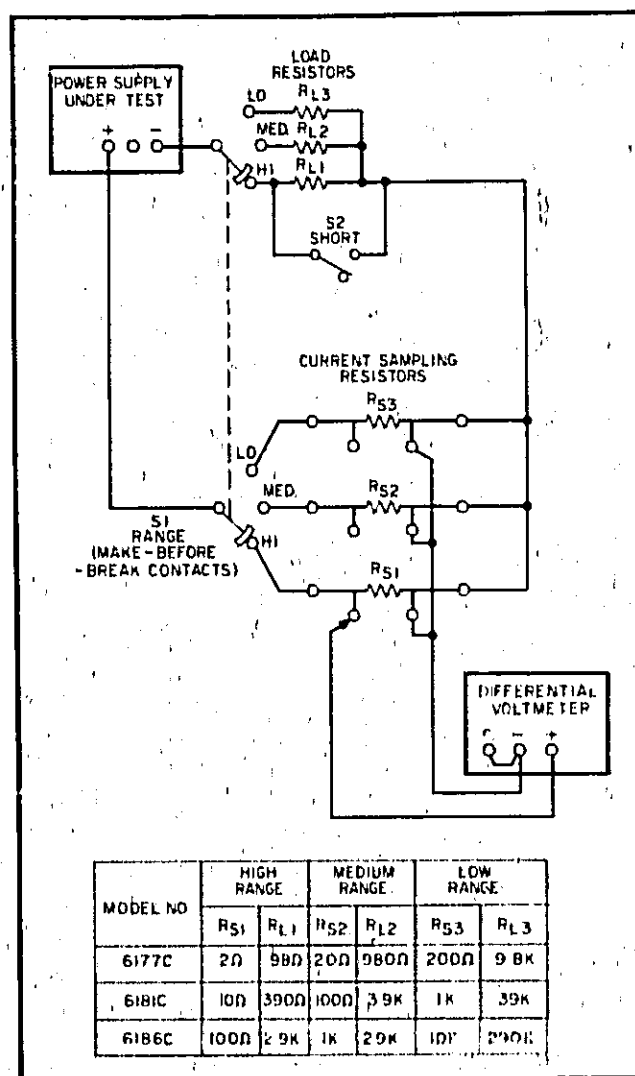

Figure 5-3. Output Current Test Setup
5-9 The monitoring device should be connected across the current sampling resistors as shown in Figure 5-3. As indicated in this illustration, neither output terminal of the power supply is grounded and the measuring device case is connected to the junction of the load and sampling resistors. This arrangement prevents ground loop paths and minimizes shunt current paths. The external range switch must have a high insulation resistance (100000M Ω or greater) to avoid significant leakage that would degrade the performance of the supply.
- Connect test setup shown in Figure 5-3, leaving switch S2 open throughout test.
a. Connect test setup shown in Figure 5-3, except connect differential voltmeter between +METER and (-) output terminals or between A0 and (-) output terminals (see Figure 3-7). Leave switch S2 open throughout test.
- Connect test setup shown in Figure 5-3.
a. Connect test setup shown in Figure 5-3. In addition, connect variable autotransformer between input power source and power supply power input.
a. Connect test setup shown in Figure 5-3, substituting true rms ac voltmeter for differential voltmeter (neither terminal grounded) and connecting positive terminal of supply to ground.
- a. Connect test setup shown in Figure 5-3. Strip chart recorder can be substituted for differential voltmeter to obtain permanent record.